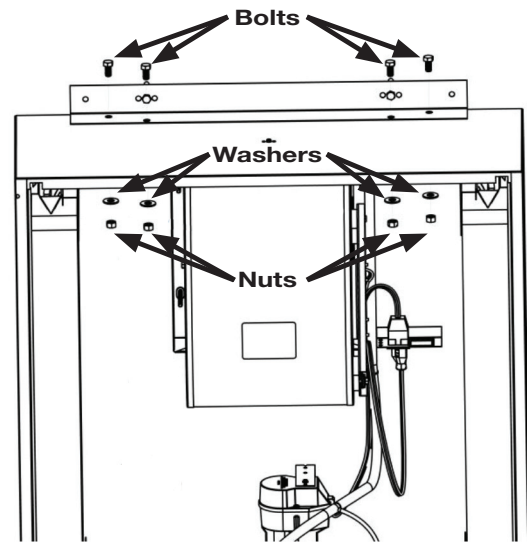

Fig. 7 - Mounting Bolts
- D. Bolt the cooler to the top mounting flange using the supplied bolts, washers and nuts (Fig 7).